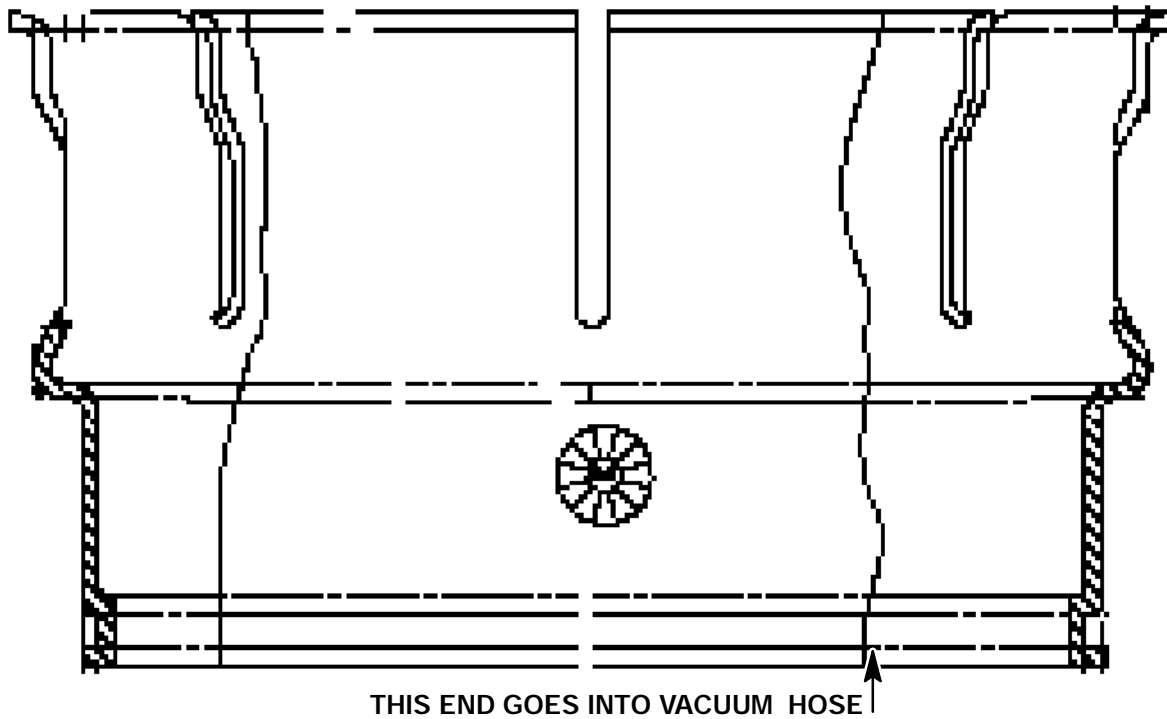

FIG. 5 - Plastic Split Ring (6)
7. Install the new plastic split ring (6) into the shortened end of the vacuum hose. Reinstall the worm drive clamp. (Refer to FIG. 5 and 7)
8. Install the new fence head (7) into the new plastic split ring (6). (Refer to FIG. 5 and 6)
9. Use the new hose clamp (8) to secure the fence head (7) to the split ring (6).
(Refer to FIG. 5, 6, and 7)